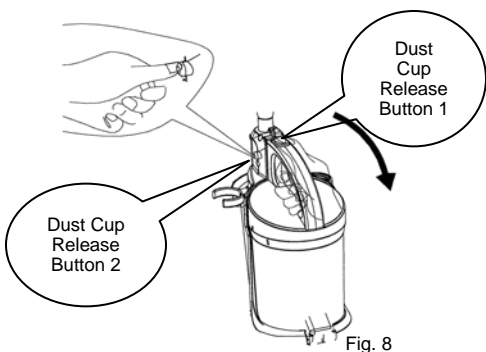

Fig. 8
1. To remove the dust cup container, first press on the dust cup release button (1) that is located on the dust cup handle and at the same time press on the dust cup release button (2) that is on the side of the upper housing. (Fig. 8) Then pull the dust cup container out.